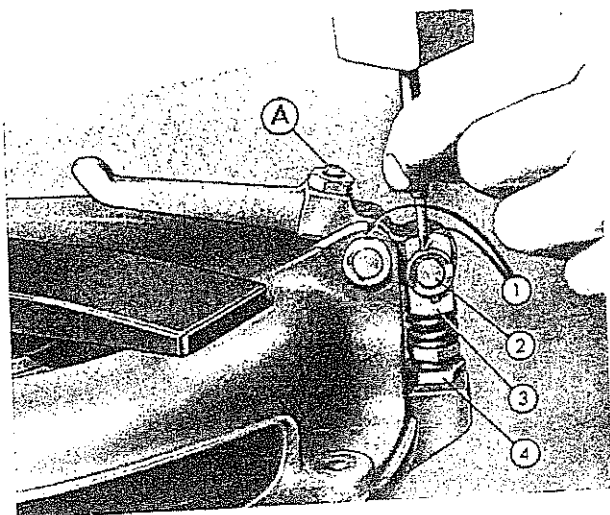
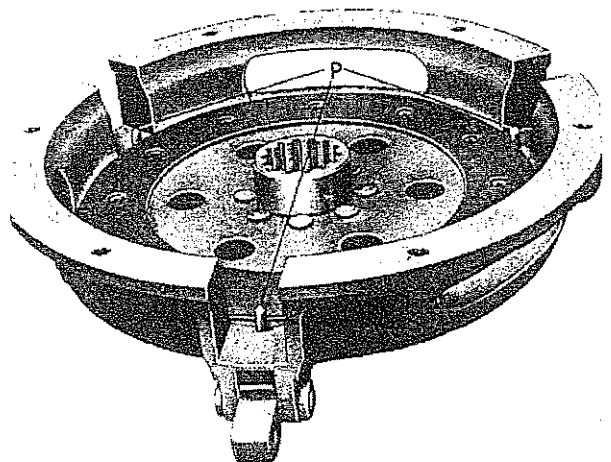

Fig. 84. - Stripping of clutch on device A 711063/A.
Fig. 88. - Clutch plate centering with reference to points P.
Mount clutch on fixture A 711063 or on fixture A 711063/A, remove the elastic pins (1, Fig. 84) and push out the disengagement lever pivot pins (2). By slackening the stud bolts fastening the clutch to fixture, all parts become free.
- the clutch disengagement lever pivots, the clevis ends contacting the disengagement levers (3, Fig. 84), the clutch-gearbox and the clutch power take-off shaft splines, the ball ends of push levers (P, Fig. 88), the clevis lever ends where contacting the disengagement collar; in addition service the bearing housing in engine flywheel.